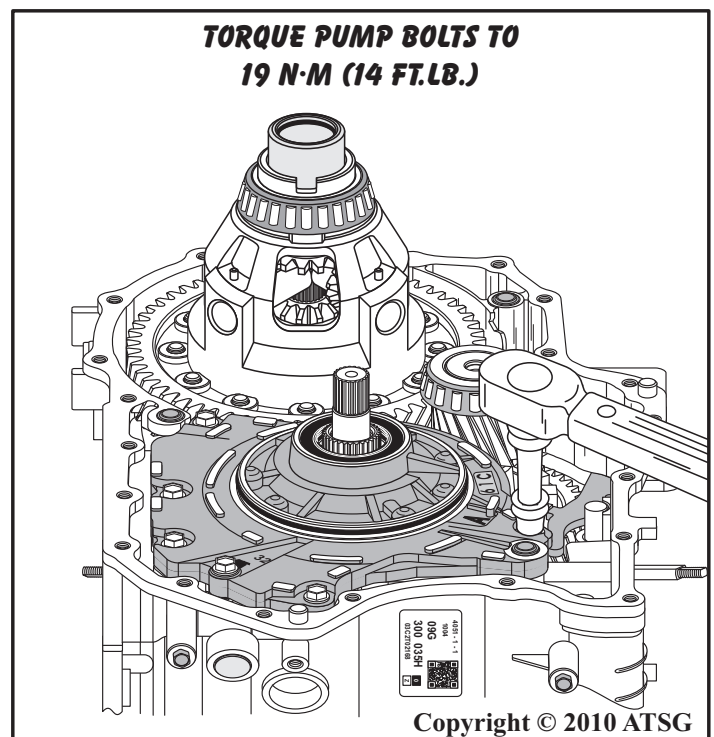

Figure 192
- 59. Torque all 6 oil pump bolts to 19 N·m (14 ft.lb.), as shown in Figure 192.